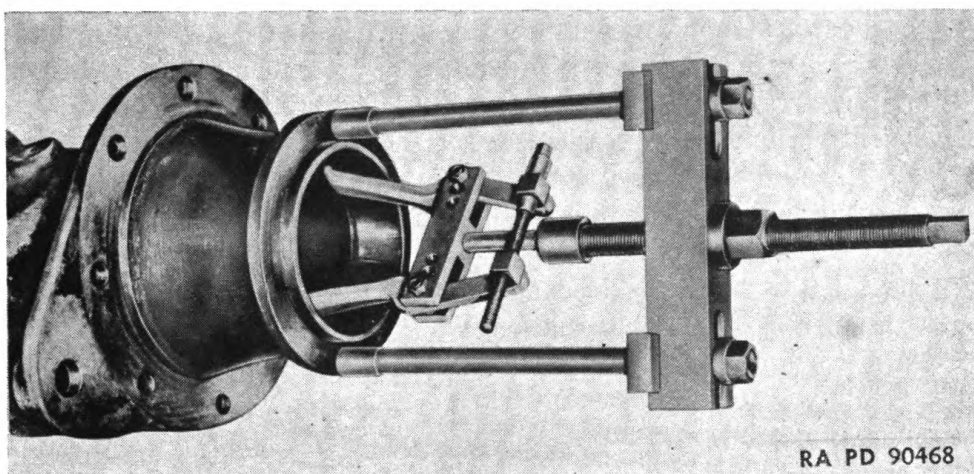

Figure 14. Bearing pullers are essential to most field work. Many are designed to push bearings into place as well as pull them.
f. BEARING PULLERS (fig. 14). Certain types of bearing pullers can be used to drive inner rings on shafts. However, these devices are limited to inner ring mountings.
(1) This operation consists of heating the bearing or inner ring in clean engine oil (SAE 30) or in a temperature controlled oven to a tem-